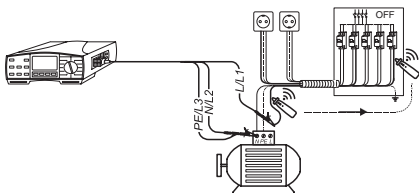
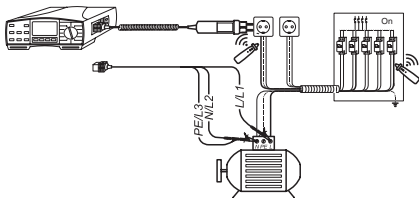

Figure 90: Connection to a voltage-free system
Figure 91: Connection to a live system
- ▶ Connect the test leads to UUT in accordance with Figure 90 or Figure 91. If desired, this connection information can directly be retrieved on the measurement instrument using the key 'HELP'. Repeated pressing of the key 'HELP' indicates the various options for connection.